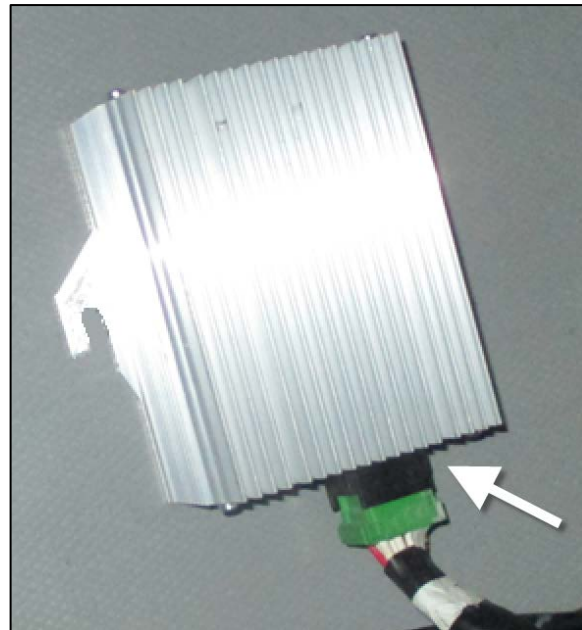

FIGURE 14
22. Connect connector T 901 to the converter (Figure 14).